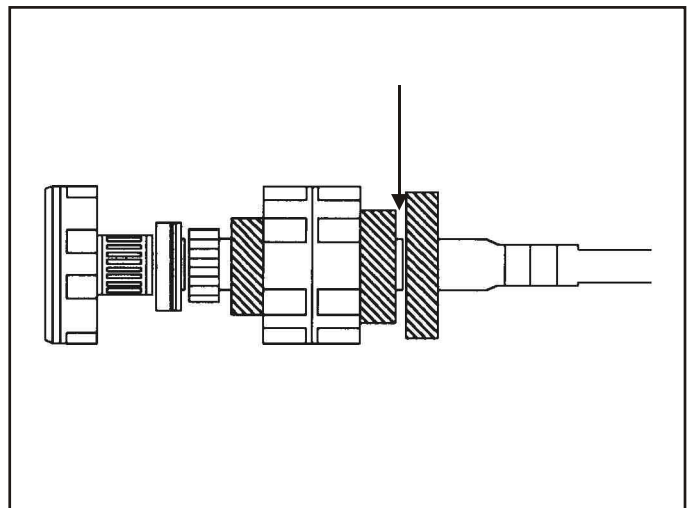

Figure 133
25. Using a feeler gauge, check the clearance between the 4th drive gear and the 3/4 drive gear thrust bearing (See Figure 133). The clearance should be: